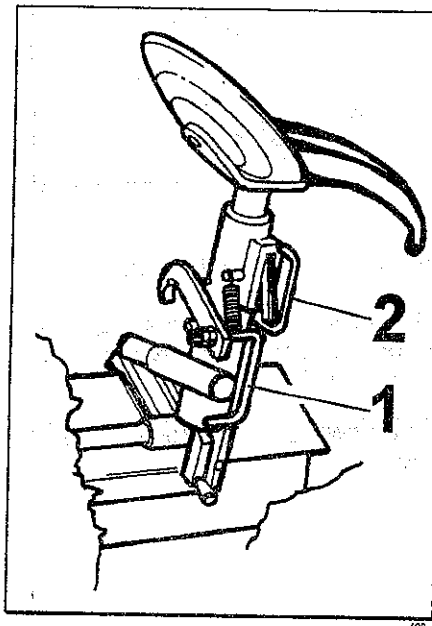

Fig.14
6. To lift the toolholder arm, depress the pedal (#1 Fig. 14) and hold handle (#2 Fig.14). The arm is balanced by a spring-loaded mechanism and the effort required is minimum. When locking the arm into working position be sure to use enough force to ensure a proper lock. The heavy metal construction can easily absorb the force.